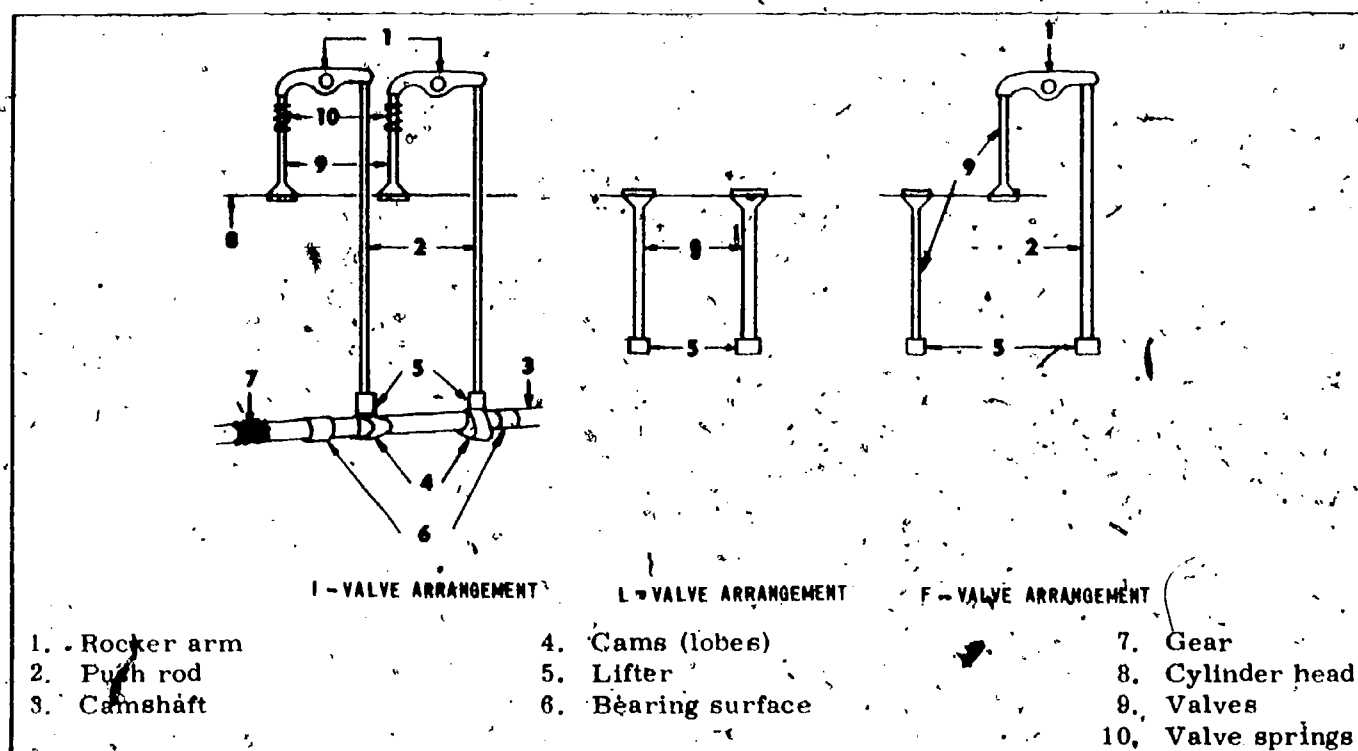

Fig 2-7. Valve arrangements.
- (e) **Valve mechanism (fig 2-7).** The valves and other parts of the valve mechanism open and close ports for the intake of air or air-fuel mixture and for removal of the exhaust gases. The valve lifter, which is moved by the camshaft lobe, forces the push rod which forces one end of the rocker arm, which in turn pivots and forces the valve open. As soon as the camshaft relieves the pressure, the valve spring pulls the mushroom poppet valve closed and gravity or spring tension forces the other parts back to their original position. These precision machined valves must be able to withstand the effects of extreme temperature of combustion and resist wear. The valve mechanisms of some engines do not require all the parts discussed here, but they perform the same basic job of opening and closing the ports to the combustion chamber. The valve arrangement will differ with the different makes and models, but the three basic arrangements are: (1) Valve in head, overhead, or I-arrangement, (2) valve in block, flat head, or L-arrangement, (3) one valve in head and one valve in block or F-arrangement. Some 2-stroke-cycle engines use the piston to open and close ports in the cylinder wall and do not have valves.